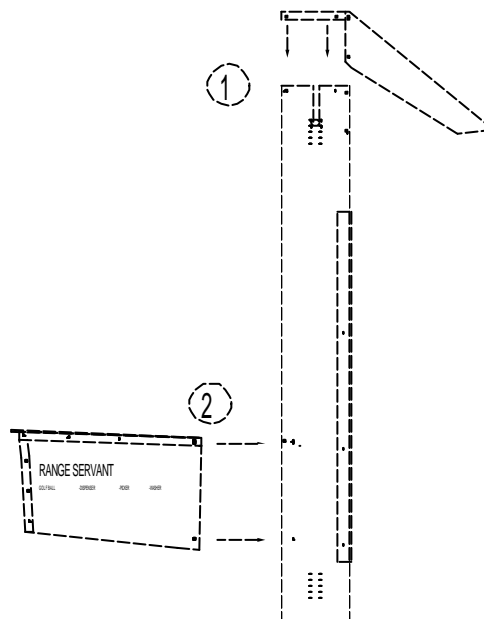

Figure 9: Mounting the ball duct
- III. Mount the ball duct on the elevator using the screws delivered with the machine. See Figure 9: (1).
- IV. Mount the ball tray to the elevator using the enclosed screws. See Figure 9: Mounting at (2)